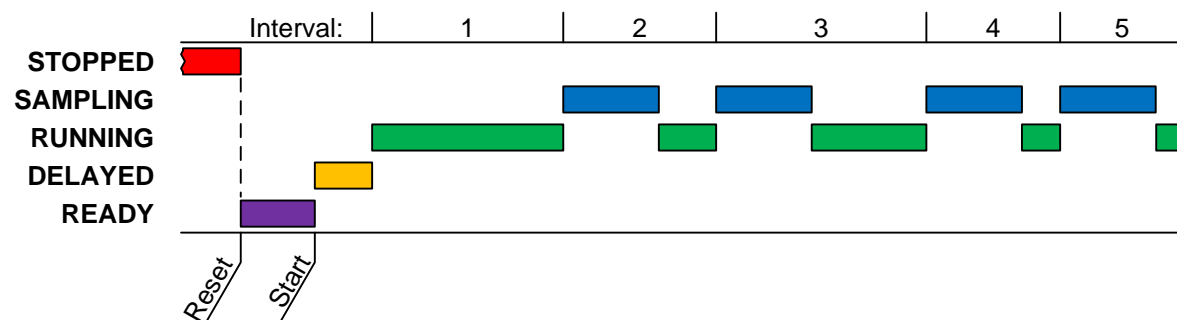

Figure A-3: Basic Sample Timing Diagram
- If a non-zero value (up to 9999 minutes) has been assigned to the Delay Start run Option (see page 53), the first sampling interval will be further delayed by that many minutes (see Figure A-3 on page 94). Until then, the program will display its operating state as DELAYED.